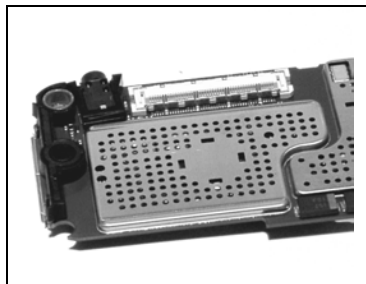

Figure 7-13.
1. Gently lift up around the Microphone seal perimeter until released. Do not push or touch microphone (See Figure 7-13).